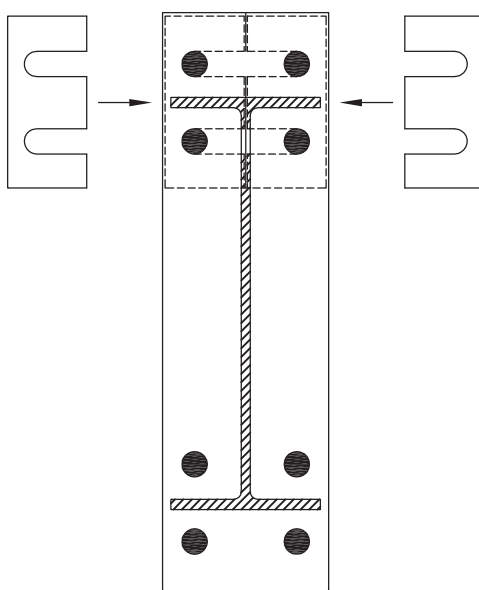

FIGURE 5 SHIMS USED BETWEEN END PLATES (after Ref. 6)
- 3 Fabrication of this type of connection requires close control in cutting the beam to length and adequate consideration must be given to squaring the beam ends such that end plates at each end are parallel and the effect of any beam camber does not result in out-of-square end plates which make erection and field fit-up difficult. Shims may be required to compensate for mill and shop tolerances (Figure 5).